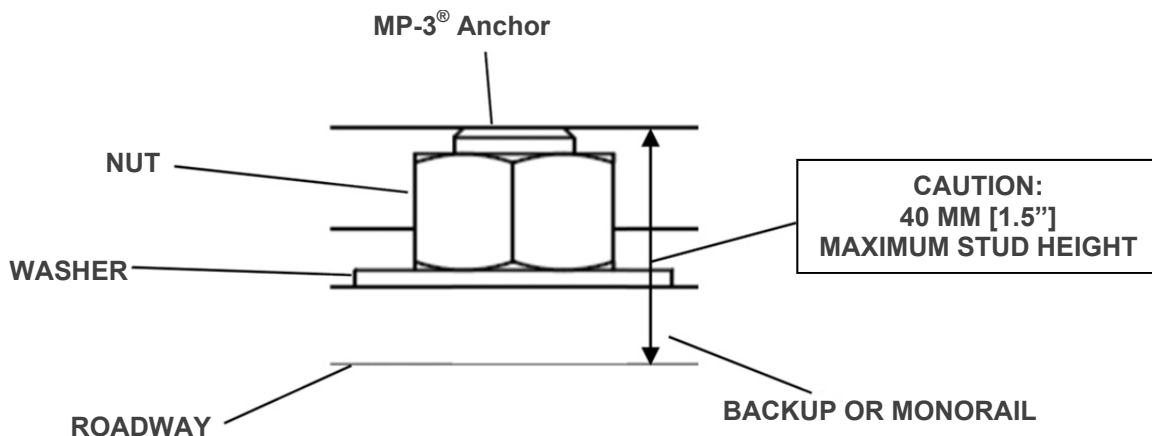

Figure 19
A) Monorail Assembly for Concrete Backup (Figure 19)
Anchor each Monorail section using the MP-3® vertical kits provided. See Figure 19 and the MP-3® Polyester Anchoring System Instructions included with this Manual. It is important to attach each segment of Monorail in alignment from the back to the front of the system (± 6 mm [$1/4$ "]).